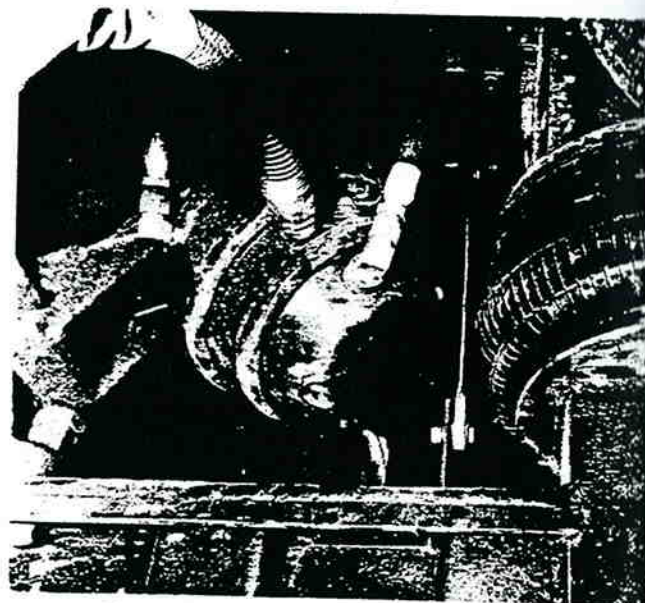

Figure 4-31. Drive Axle Brake Chamber.
1. Clean the chamber exterior of all road grime then mark it in such a way so it can be assembled in the same manner. Refer to figures 4-31 and 4-32.